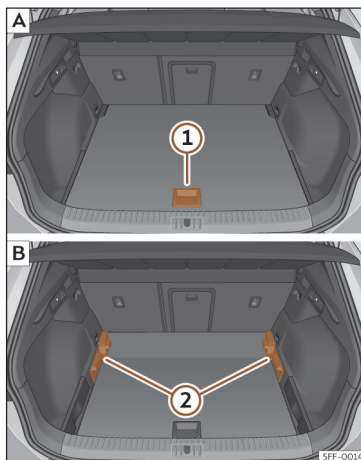

Fig. 189 Variable luggage compartment floor: **A** raised position; **B** lowered position.
- To move from the low position to the high position, lift the floor using the handle >>> **Fig. 189** (1), and pull it back until the front of the floor has fully passed the supports (2).
- Move the floor forward over the supports as far as the rear seat backrest and then lower the floor with the handle (1).
- To move from the high position to the low position, lift the floor using the handle >>> **Fig. 189** (1), and pull it back until the front of the floor has fully passed the supports (2).
- Now let the front part fall to the floor and slide the floor forwards as far as the rear seat backrest; lower the floor at the same time with the handle (1).
- Lift the variable floor in the high position using handle >>> Fig. 189 ①, pull it up and push it towards the backrest of the rear seats until it folds along the hinge line and the movable part of the floor is resting on itself.